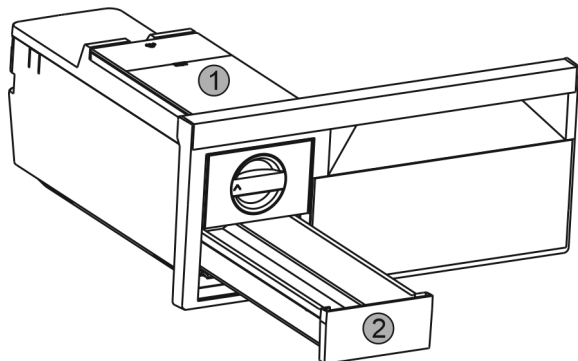

Fig. 29
- ▶ Take out the water tank Fig. 29 (1) and ice cube drawer Fig. 29 (2).